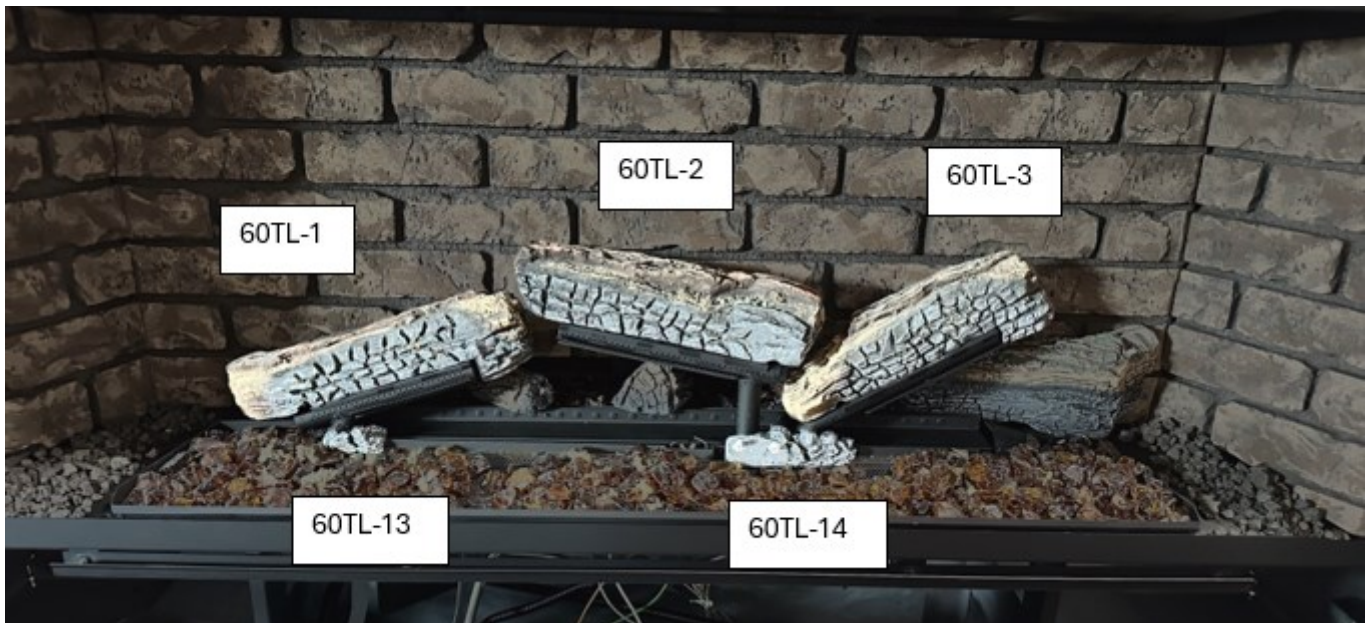

Figure 4 - Log Placement 2
3. Reinstall the left, center, and right burners. Reinstall the front ember bed media tray. Install logs #60TL-1, #60TL-2, and #60TL-3 on the burners via pin locations as shown in Figure 4. Logs #1-3 are slightly slotted. Ensure Logs #1 & #3 slide down on the burner so they are fully seated. See Figure 5. When installing Log #2 adjust the log side to side to provide even gaps between the three logs. See Figure 6.